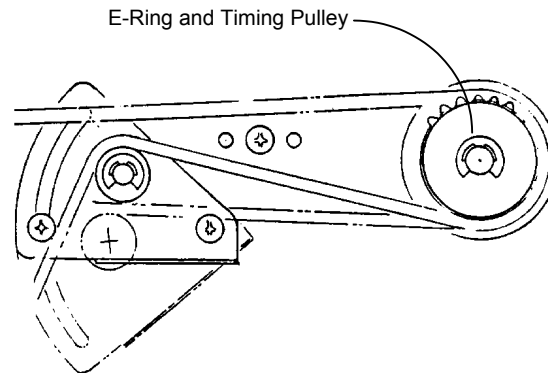

Figure 1. E-ring and Pulley
3. (Figure 1): Remove the E-ring from the right end of the Roller Shaft.